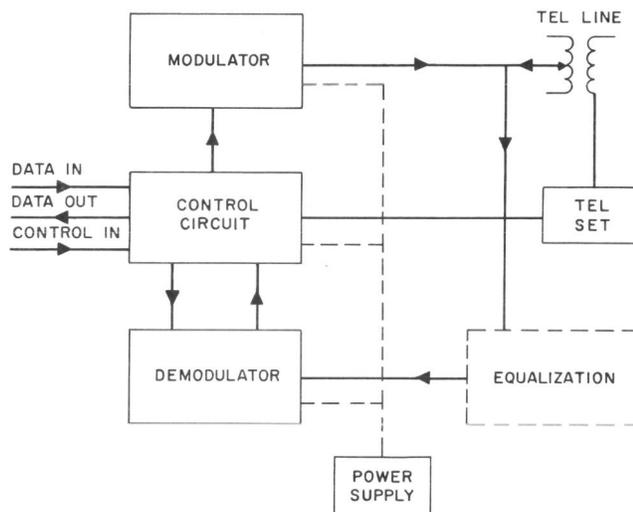

Fig. 3 — Data Set 3A, Block Diagram
3.01 Data set model 3A consists of a modulator, demodulator, power supply, and control circuitry all enclosed in a gray metal housing. Fig. 3 shows a simplified block diagram of the data set model 3A.